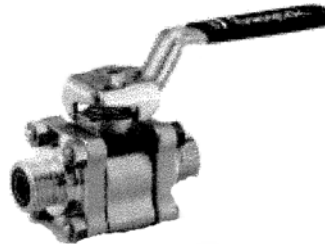

Figure 6-5. 1¹/₂-Inch Isolation Ball Valve (SS-67TF24)
4. 1¹/₂-Inch Isolation Ball Valve (SS-67TF24) (see Figure 6-5). The following 1¹/₂-inch valves are manufactured by Whitey Co. and distributed by Swagelok. These valves are generally hull component isolation valves. These are Swagelok Series 60 valves and are repaired or replaced in accordance with the procedures listed in sections 6-6.2.1 through 6-6.2.3.